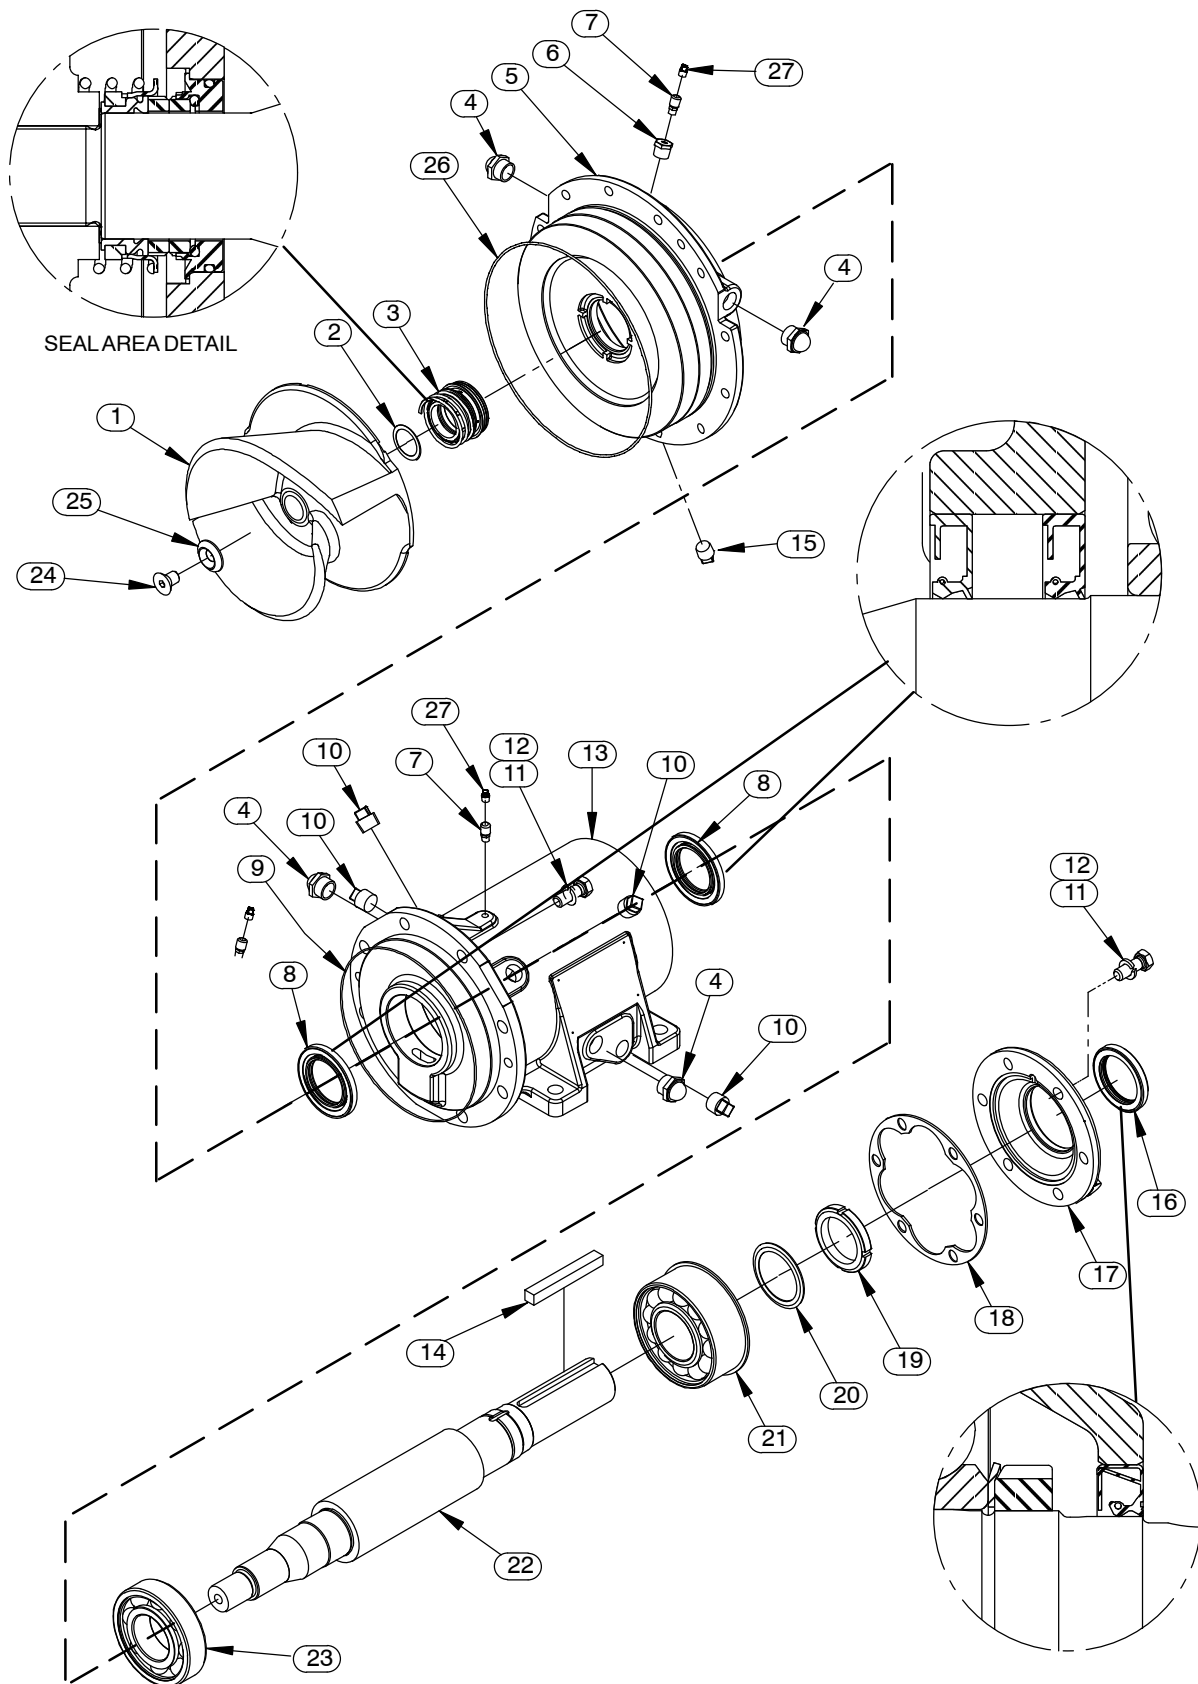

Figure 2. Repair Rotating Assembly
(Figure 2)
(Figures 2)
Further disassembly requires separating the rotating assembly from the power source. Remove the coupling securing the rotating assembly to the power source and remove the key (14, Figure 2).